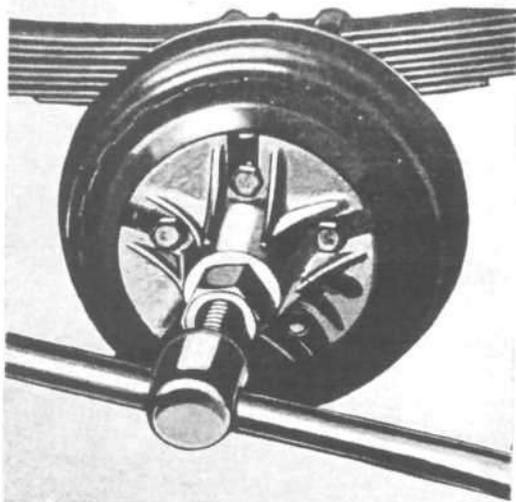

FIG. 240—WHEEL HUB PULLER
c. Use a puller to remove the wheel hub. (Tool C-319 shown in Fig. 240.)